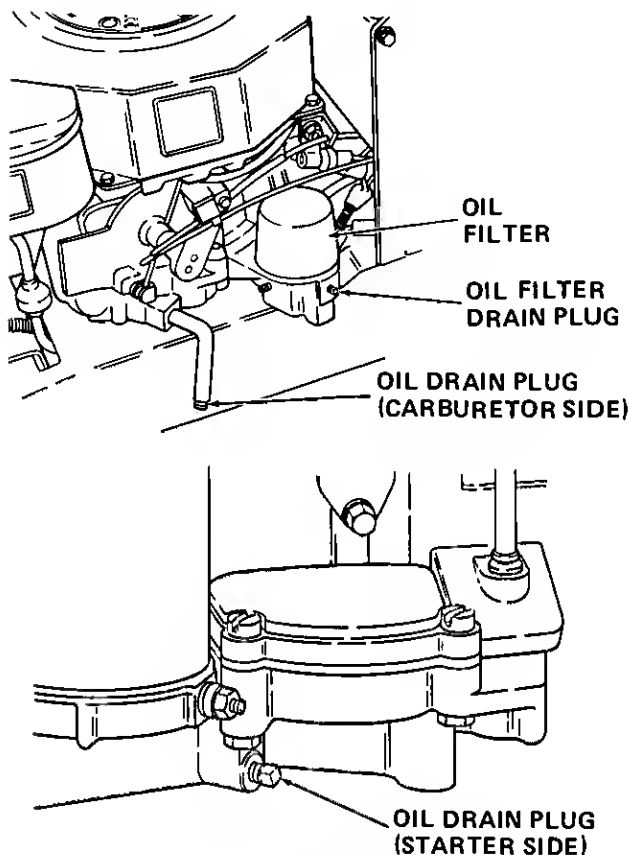

Figure 25. Oil Drain Plugs, Oil Filter, and Oil Filter Drain Plug
1. Place the tractor on a level surface, and engage brake pedal lock. Remove the drain plug and collect the old oil in an adequate container. (Refer to Figure 25.)